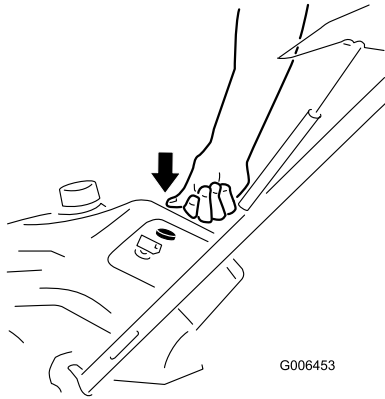

Figure 16
- 3. Firmly push in the primer with your thumb as indicated by the chart below, holding in the primer for a second before releasing it each time (Figure 16).